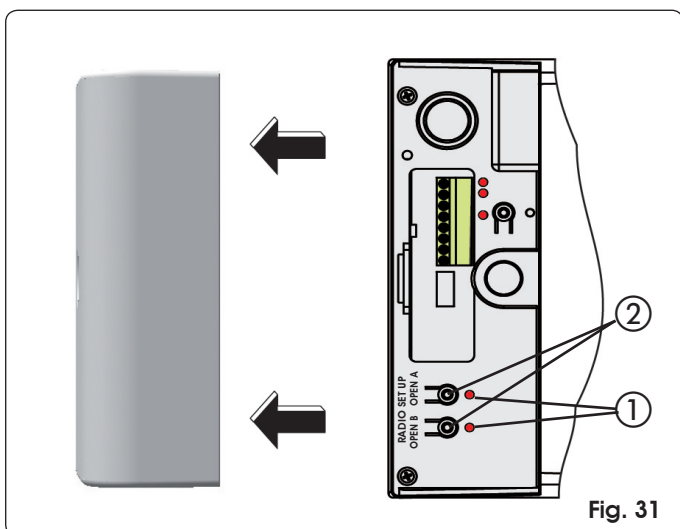

Fig. 31
- 4) To respectively memory store total or partial opening, press the OPEN A or OPEN B push-button for one second (Fig. 31 ref. ②).
- 2) To respectively memory store total or partial opening, press the OPEN A or OPEN B push-button for one second (Fig. 31 ref. ②).